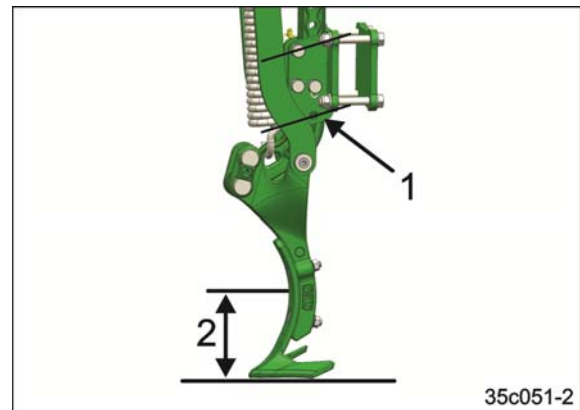

Fig. 124
- The maximum working depth is 150mm (Fig. 124/2)
If increasing wear of the tool tines on the soil tillage implement causes the maximum working depth to be exceeded (Fig. 124/2), the tractor wheel mark eradicators (Fig. 124/1) must be mounted at a higher position